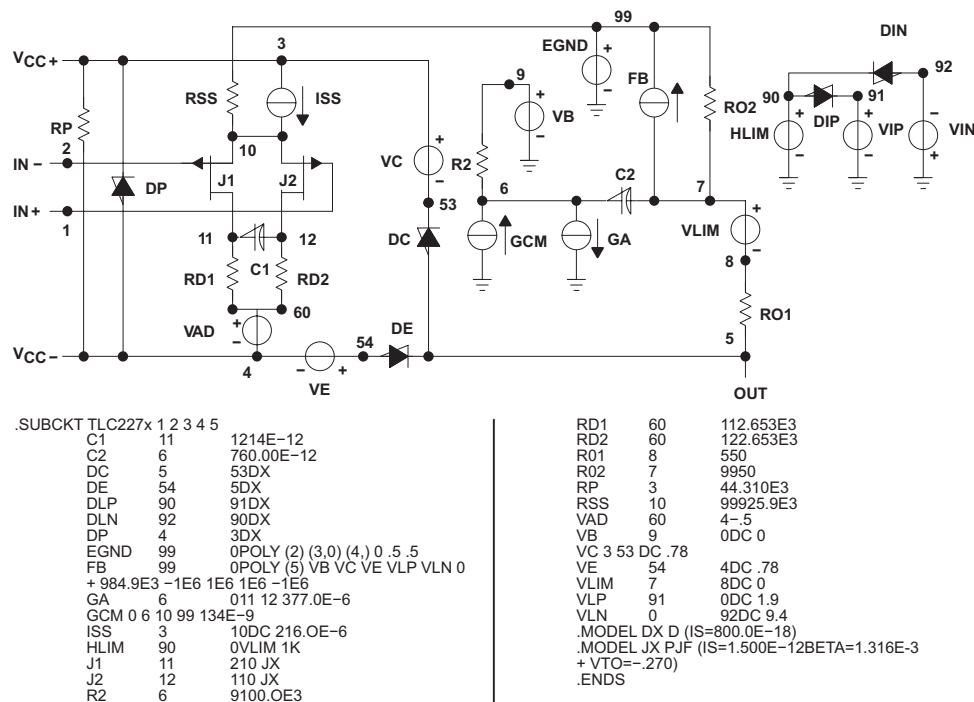

Figure 53. Boyle Macromodel and Subcircuit
Macromodel information provided was derived using MicroSim Parts™, the model generation software used with MicroSim PSpice™. The Boyle macromodel (1) and subcircuit in Figure 53 were generated using the TLC2272AM-MIL typical electrical and operating characteristics at  $T_A = 25^\circ\text{C}$ . Using this information, output simulations of the following key parameters can be generated to a tolerance of 20% (in most cases):